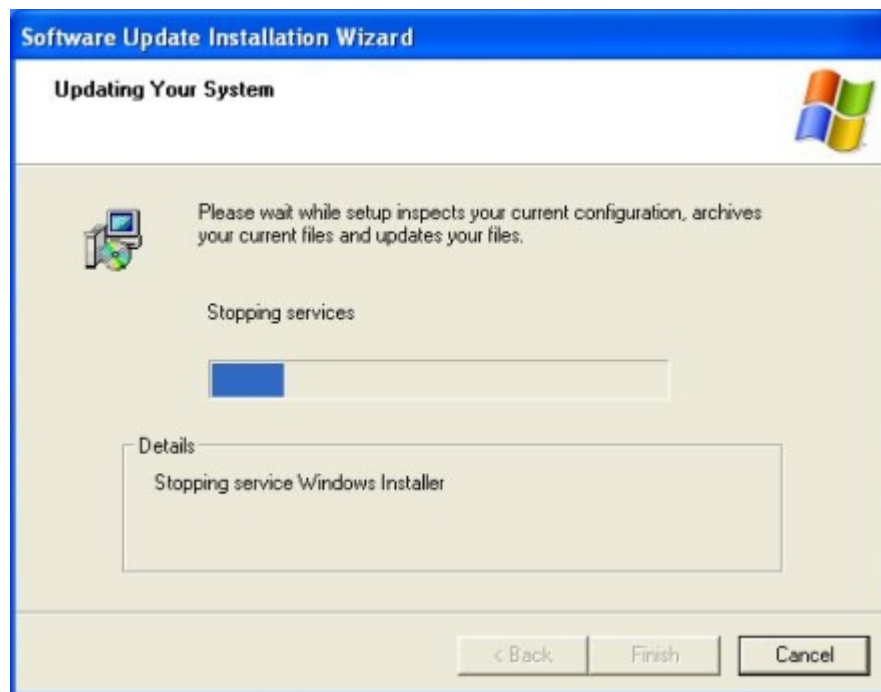

Figure F. 13 - Windows Installer Service Update Dialog
13. A service management dialog box will be displayed, Figure F. 13, as the update is managed .